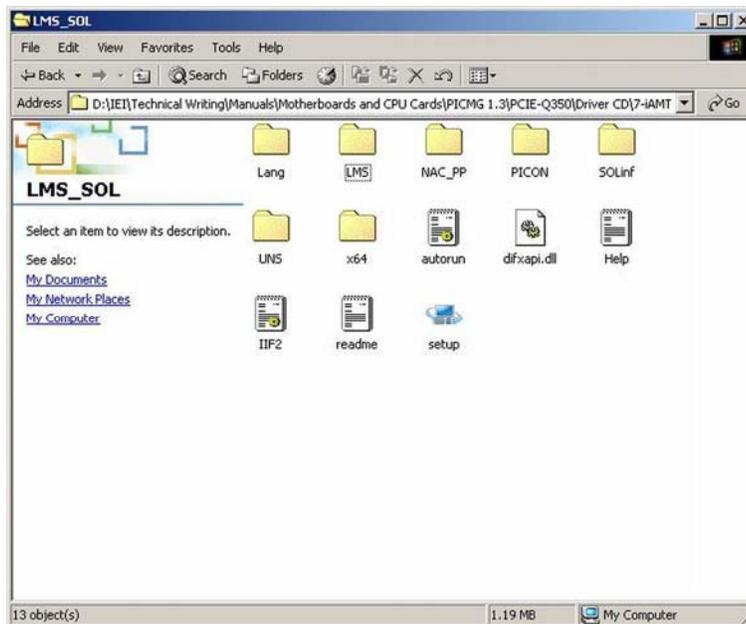

Figure 6-36: Intel® AMT Driver Installation Icon
Step 3: Click on the LMS_SOL directory icon. The window in **Figure 6-36** appears.
Step 4: Double click the setup icon in **Figure 6-36**.